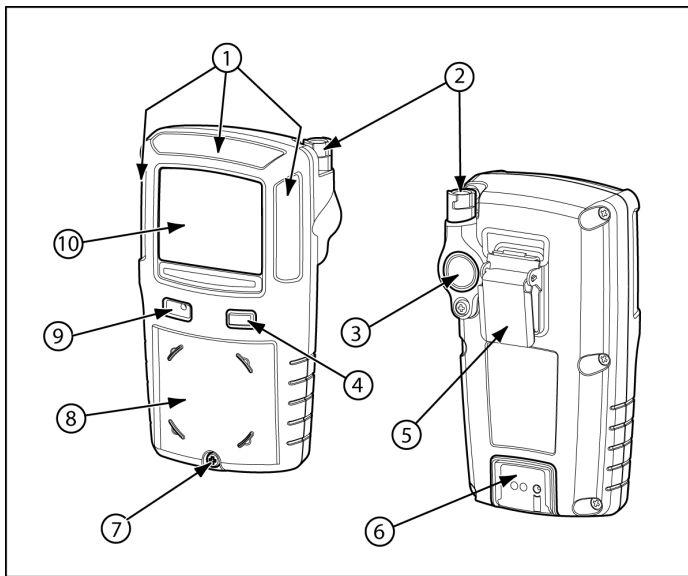

Figure 1. Parts of the GasAlertMaxXT II
- Figure 1, and Table 2, describe the detector's components.